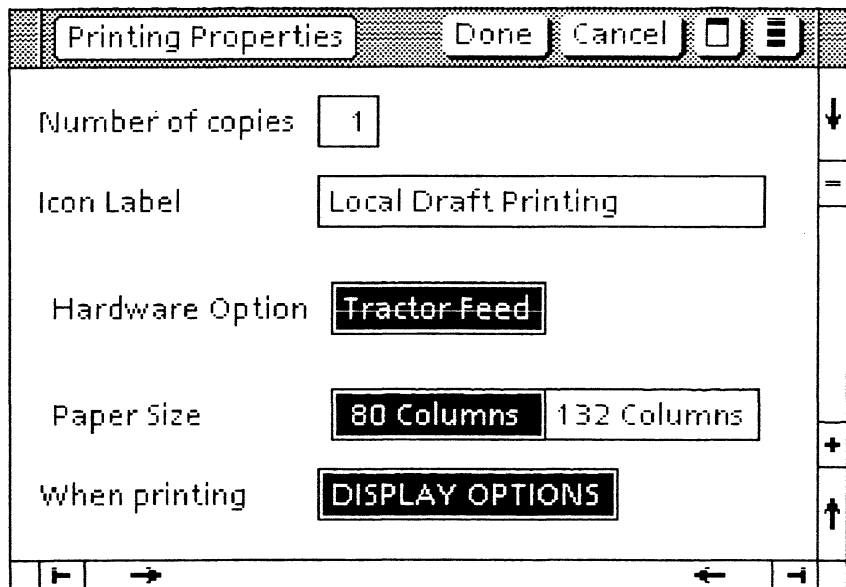

Figure 5-2 Local draft printer property sheet
3. Select the local printer icon. The printing option sheet (Figure 5-2) is displayed.
The local draft printer property sheet (Figure 5-2) is used to select options for printing documents.